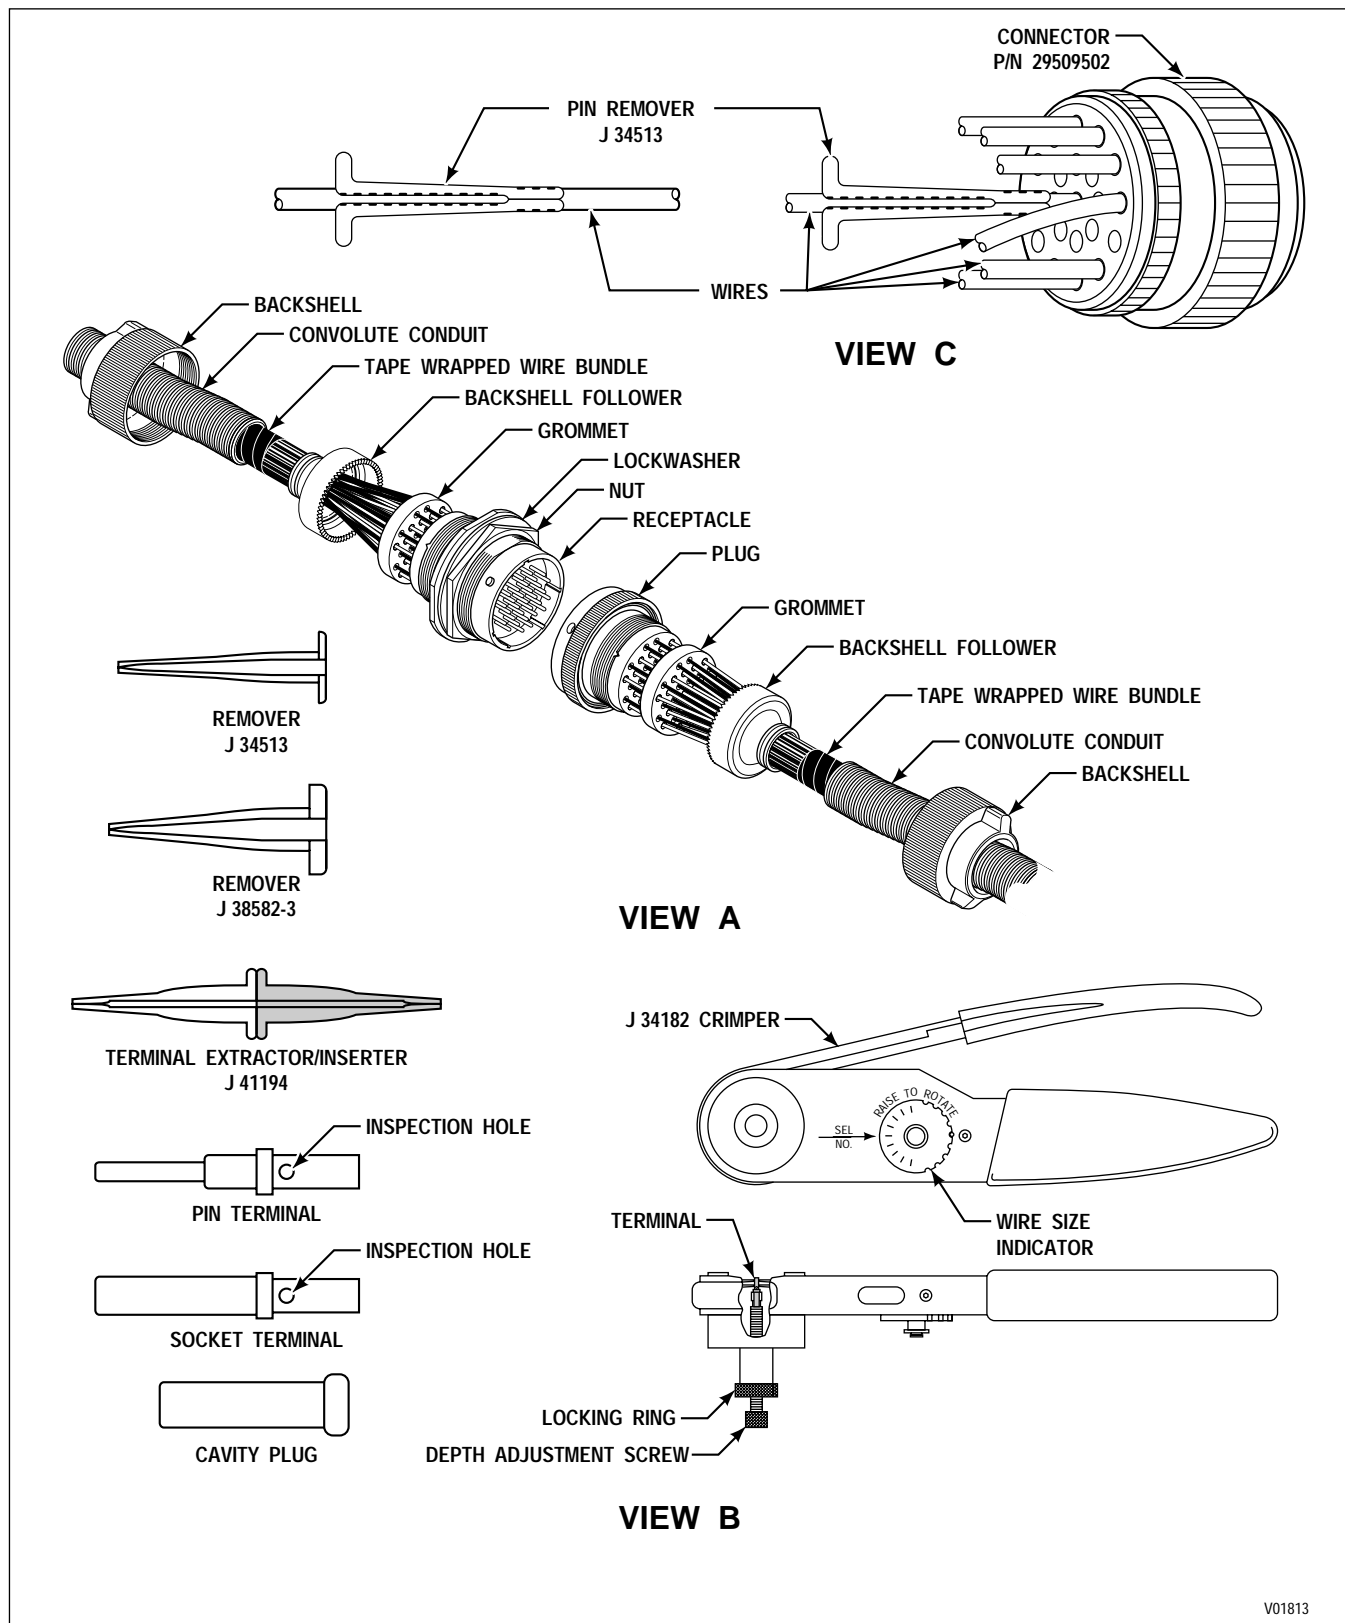

Figure E-9. Deutsch IPD/ECD Connectors (31-Way Bulkhead, 31-Way Feedthrough Harness; 16-Way Optional Sensor Harness; 6-Way Optional DDR)
B. Terminal Removal (refer to Figure E-9, View A)
C. Terminal Crimping (refer to Figure E-9, View B)